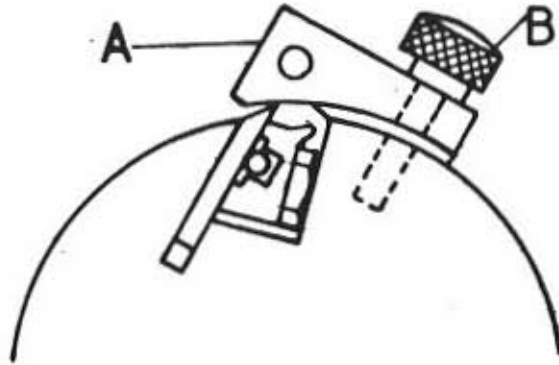

FIG. 14.
- 1 Turn the cutterblock to approximately the position shown in FIG.14 and loosen the 5-M12 (T5) or 6-M12 (T6) hexagon head screws, carefully remove knife from cutterblock.
- 2 To re-set the knives the cutterblock should be in the approximate position shown in FIG.14. Place the knife in between wedge and cutterblock with the blade drawn forward slightly.
2. Turn the cutterblock to approximately the position shown in FIG.14 and loosen the 6 - M12 knife locking screws (T6) or 5 - M12 knife locking screws (T5) until knife is just free of cutterblock.
3. To re-set the knives, the cutterblock should be in approximately the position as shown in FIG.14. Place the knife in the slot ensuring that all faces are clean and the clamping bar free from burrs.
4. Secure the knife setting device "A" FIG.13 (which when not in use normally secured to the rear of the machine table) to the cutterblock by the two knurled locking screws "B" as shown in FIG.14. With knife setting device in this position, knife is set.